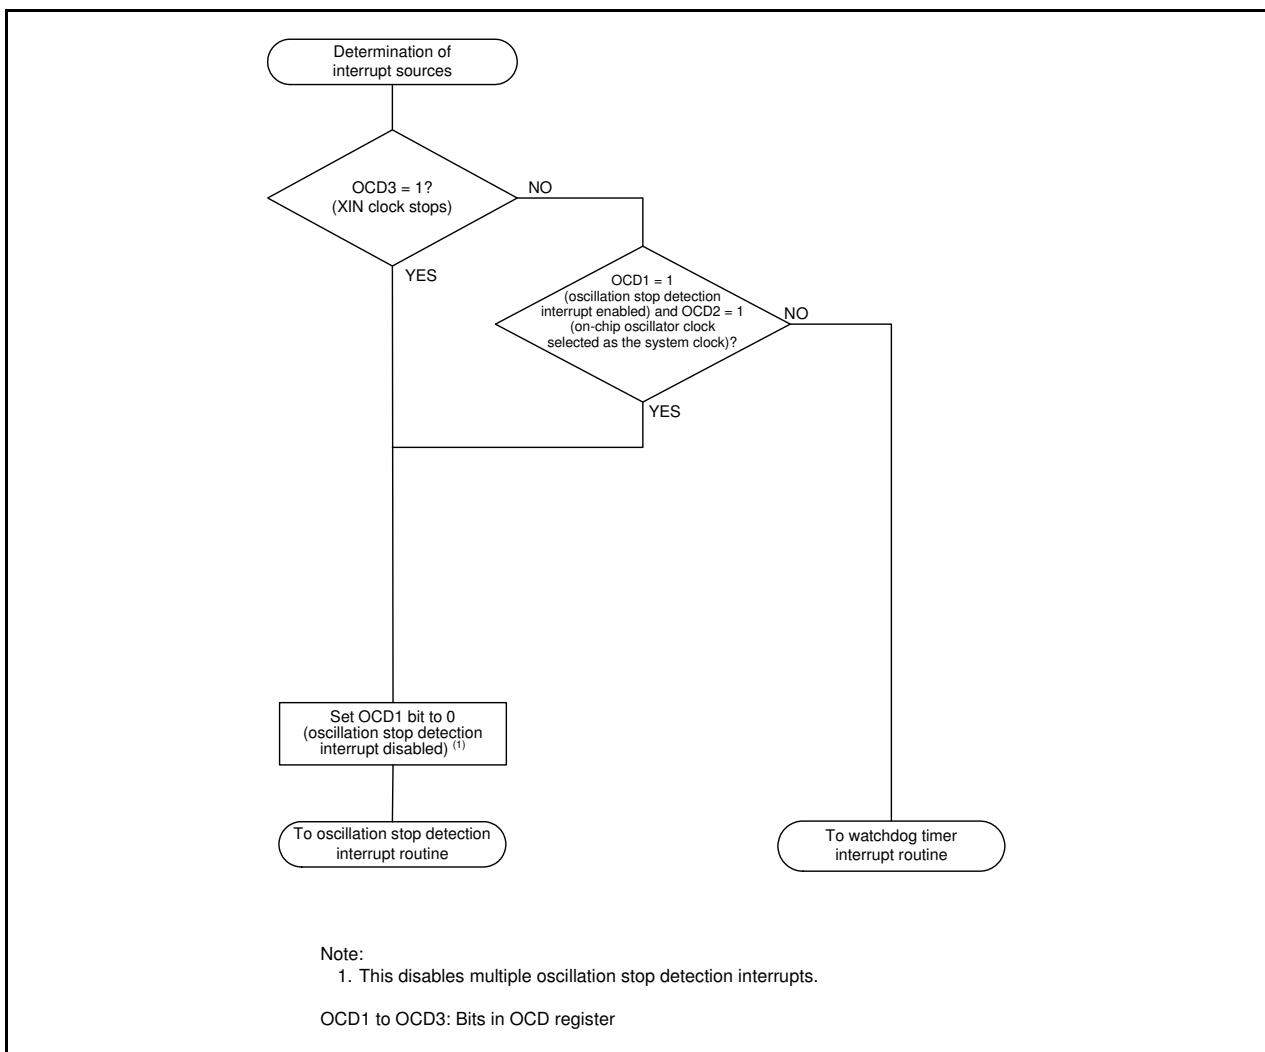

Figure 8.6 Example of Determining Interrupt Sources for Oscillation Stop Detection or Watchdog Timer
- The oscillation stop detection interrupt shares a vector with the watchdog timer interrupt. To use the oscillation stop detection interrupt and watchdog timer interrupt, the interrupt source needs to be determined. Table 8.3 lists the Determination of Interrupt Sources for Oscillation Stop Detection or Watchdog Timer. Figure 8.6 shows an Example of Determining Interrupt Sources for Oscillation Stop Detection or Watchdog Timer.